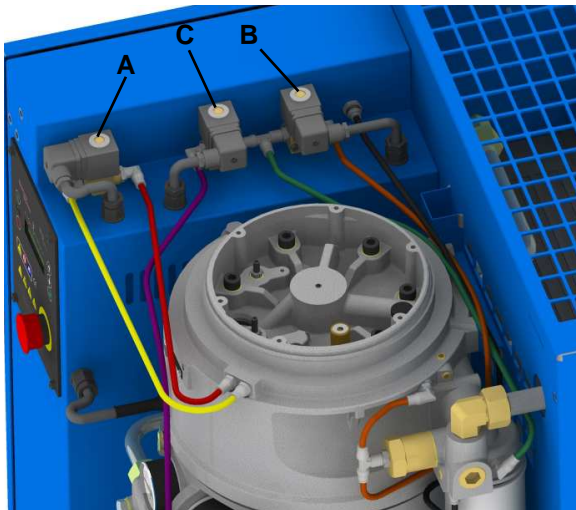

Fig 6.1 Solenoid Locations
6.1 Compressor Control (Fig 6.1)